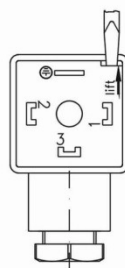

Fig. 8
- ✚ Open the core ⑧ of the cable socket ② with a screwdriver or similar tool (→ Fig. 8).